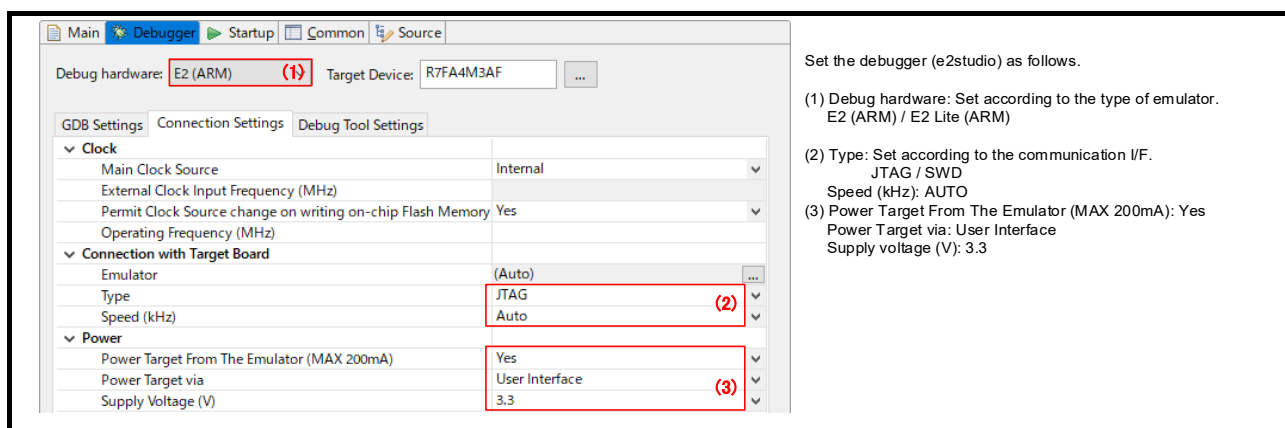

Figure 5.1 Debugger (e² studio) settings
When the setting of (2) in Figure 5.1 is **JTAG**, set the jumper pins (JP1 - JP6) of this product according to **JTAG** in Table 5.1.
When the setting of (2) in Figure 5.1 is **SWD**, set the jumper pin (JP1 - JP6) of this product according to the **SWD** in Table 5.1.